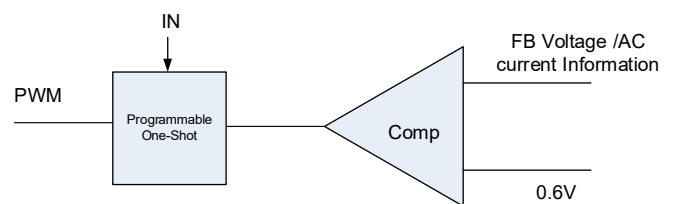

Figure 2. Simplified Control Schematic of AOZ1270AQI
The simplified control schematic is shown in Figure 2. The high-side switch on-time is determined solely by a one-shot whose pulse width can be programmed by one external resistor and is inversely proportional to input voltage (IN). The one-shot is triggered when the internal 0.6V is higher than the combined information of FB voltage and the AC current information of inductor, which is processed and obtained through the sensed lower-side MOSFET current once it turns-on. The added AC current information can help the stability of constant-on time control even with pure ceramic output capacitors, which have very low ESR. The AC current information has no DC offset, which does not cause offset with output load change, which is fundamentally different from other  $V^2$  constant-on time control schemes.